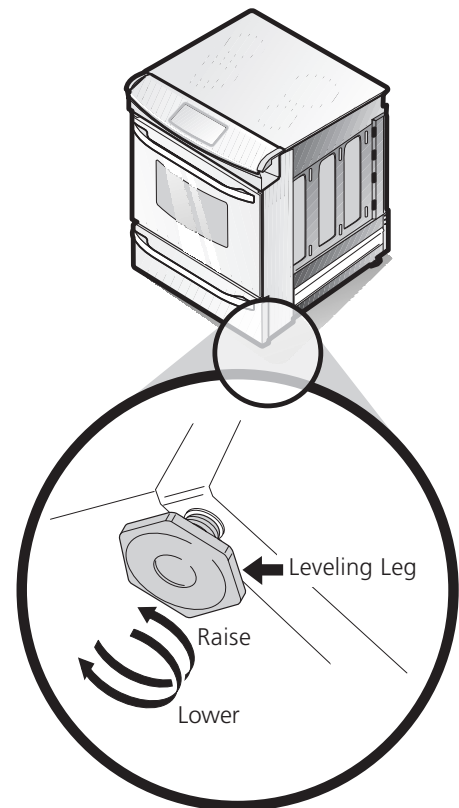

Figure 12
4. Level range if necessary, by adjusting 4 leg levelers with wrench. (See Figure 12 below.) A minimum clearance of 1/8" (0.8 cm) is required between the bottom of the range and the rear leg levelers to allow room for the anti-tip brackets.